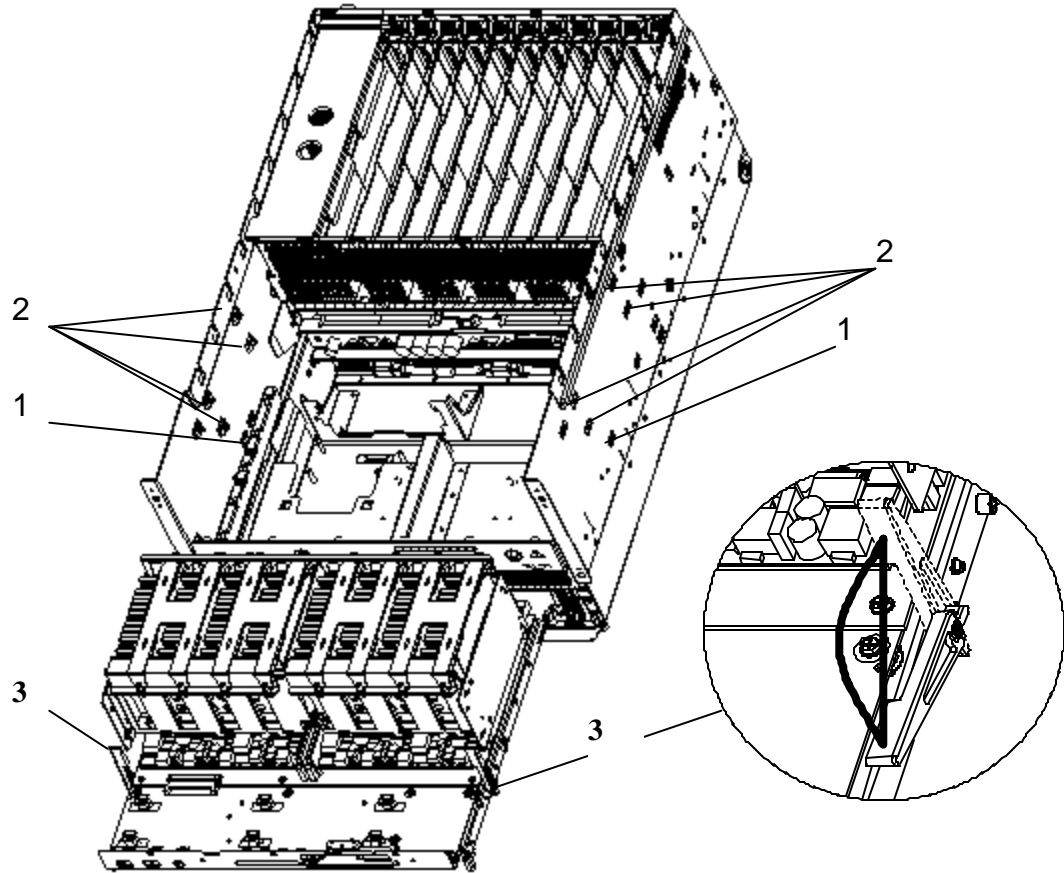

Figure 2-9: Profusion® Carrier Tray
To install the Profusion carrier tray assembly into the chassis (see Figure 2-9), set the tray on the tray supports on the inside walls of the chassis and slide it toward the midplane. The tray and chassis have self-aligning features to help guide the tray as it approaches the grand connector on the midplane. When the connectors are within approximately 1" from connecting, check under the Profusion carrier tray for proper engagement of the center supports. The insertion/extraction levers (3) on the side of the tray should be tilted forward as the connectors approach each other. As the connectors begin to engage, rotate the levers back until the connectors are fully engaged. Levers should be in an upright or near upright position. Secure the
tray and the processor retention mechanism to the sides of the chassis with screws (1) and (2) as indicated in Figure 2-9.